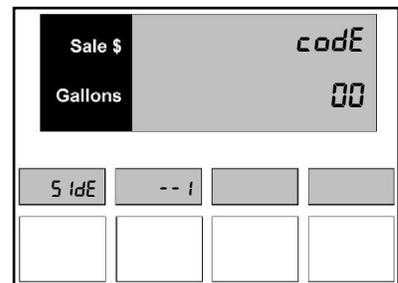

Figure C.2 – Manager's Mode
5. Press the **Enter** button to enter Manager's Mode. The display appears as shown in Figure C.2. Programming can now be started and each menu code can be programmed individually.
1. Once you are in the Manager Mode, you can program the dispenser. The display appears as shown in *Figure C.2*. Programming can now be started and each menu code can be programmed individually.